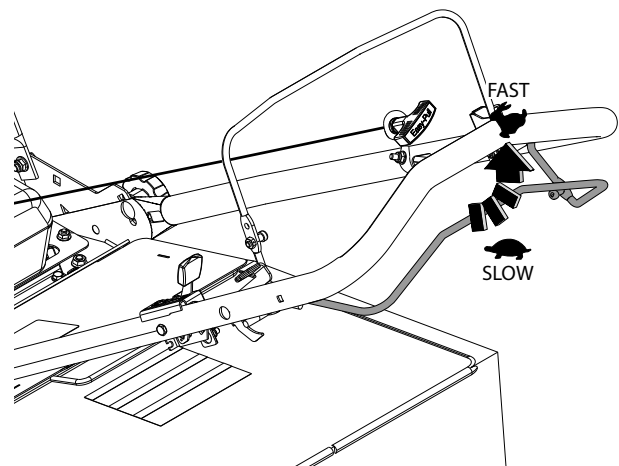

Figure 4-3. Travel Controls
2. Pull upward on the drive control bar. See Figure 4-3.